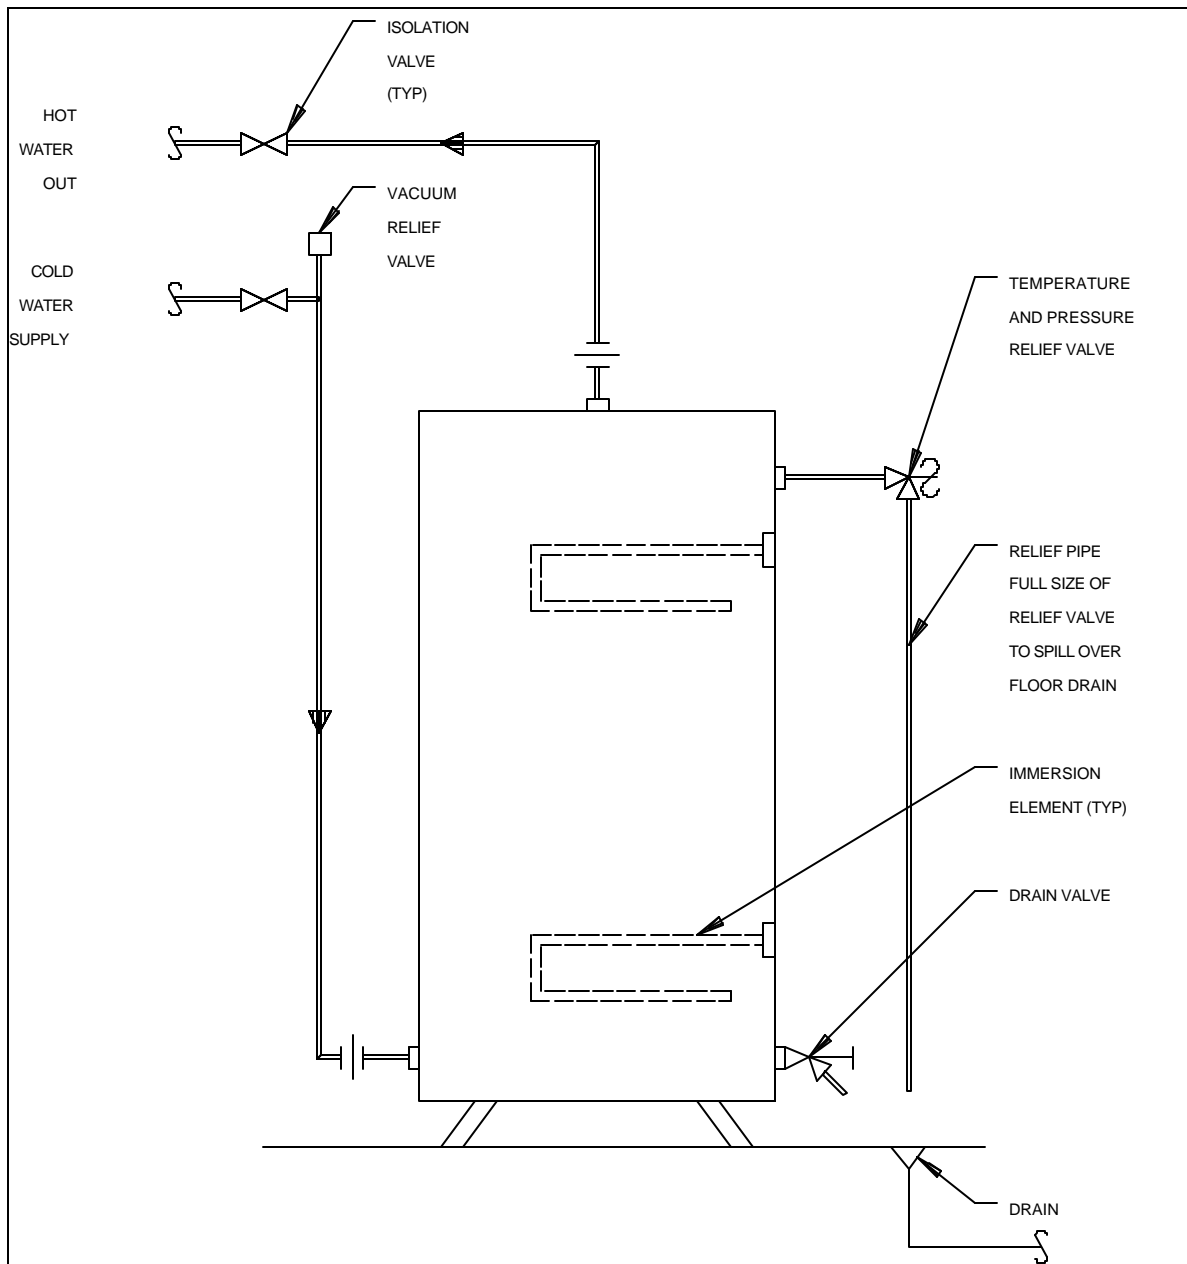

Figure 12-3. Electric water heater
b. Water heaters. The purpose of the domestic water heater is to provide hot water at the desired temperature to the plumbing fixtures and to any other point of use. System water temperatures range from 120 to 140°F for typical plumbing fixtures, up to 165°F for laundry, and 180 to 190°F for dishwashing and sanitizing applications (see figures 12-3, 12-4, and 12-5).
(1) Heat energy sources include oil, propane and natural gas, electricity, and steam. Oil and gas units are generally referred to as fuel type direct-fired water heaters. Electric water heaters employ a direct conversion of electrical energy into heat. Indirect water heating is accomplished through the use of remote heat sources (usually boilers) which supply steam to the water heater. The water heater then uses steam as an energy source to heat the domestic water.
(2) Water heaters are also classified as to their storage capacity and recovery rate. The recovery rate is the amount of water in gallons per hour (gph) that can be raised +100° F at a given heat input. The storage capacity allows large volumes of hot water to be drawn from the system at flow rates that exceed the recovery capacity of the heater. Instantaneous heaters have a high recovery rate and very little storage, while storage type heaters have a lower recovery rate and significant storage capacity. A semi-instantaneous heater is a variation of the above two types, with limited storage and moderate recovery rates.